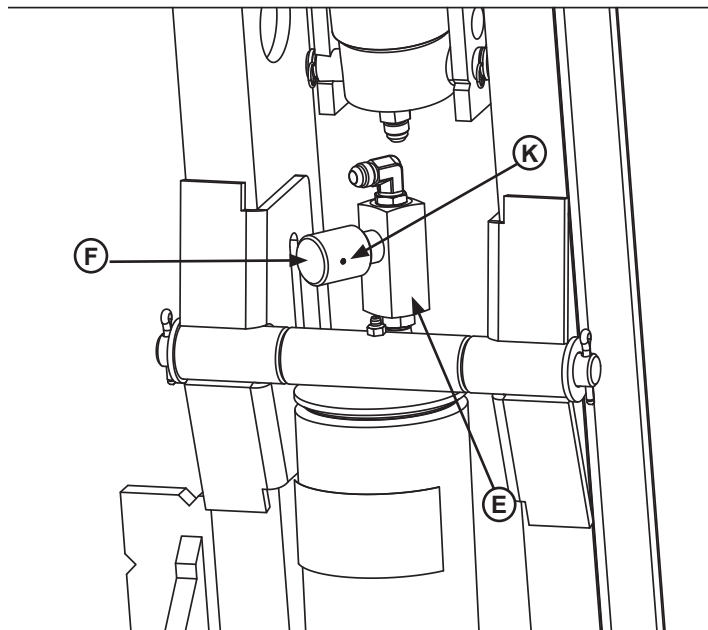

Figure 18
6. Fully open the down speed flow control valve (**E**) by loosening the set screw (**K**) and turning knob (**F**) counter-clockwise (see Figure 18). Record the number of turns/original setting.